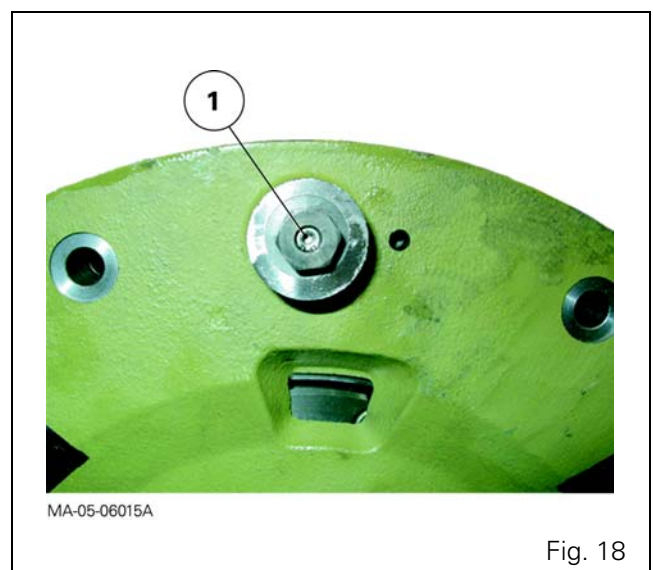

Fig. 18
- 69. Remove the large springs (62) and the pins (71).
- 70. On cover (38), remove:
- the plate (43),
- the seal (42) and discard it,
- the piston (39),
- the seals (36) (41) and discard them,
- the unions (72), the valve (1) (Fig. 18) and the O'ring (75) of the 17 bar supply port (Fig. 3).
95. On the external face of the cover (38), place three sufficiently long and equally spaced studs in the holes provided for screws (64).
96. Install and position the cover, with the valve port (1) directed upwards (Fig. 18).
97. Before fitting screws (70), it is **mandatory** to check that the spools (44) slide freely in each compartment of the front cover on the input unit. To do this, compress the springs (45), using a screwdriver passed through the tapped holes of the unions (72). If the springs cannot be compressed, investigate the cause..
98. Pretighten screws (70).
99. During pretightening, check that the spools (44) still slide freely. Also check that each end of the (large) springs (62) is correctly housed in its respective seat.
101. It is **mandatory** to install and tighten the valve (1) fitted with its seal to 6 - 8 Nm max. (Fig. 18). Fit and tighten the unions (72).